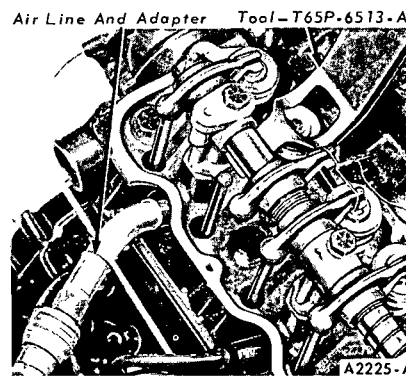

FIG. 28—Compressing Valve Spring—In Chassis
4. Tighten the retaining bolts just enough to seat the rocker arm shaft supports on the cylinder head. Push the rocker arm to one side and secure it in this position (Fig. 28). To move the rocker arm on either end of the shaft, it will be necessary to remove the retaining pin and spring washer and slide the rocker arm off the shaft.
5. Turn on the air supply. Air pressure may turn the crankshaft until the piston reaches the bottom of its stroke. Using the valve spring compression tool shown in Fig. 28, compress the valve and remove the valve spring retainer locks, the sleeve, spring retainer and the valve spring. If air pressure fails to hold the valve in the closed position during this operation, it can be presumed that the valve is not seating or is damaged. If this condition occurs, remove the cylinder head for further inspection.